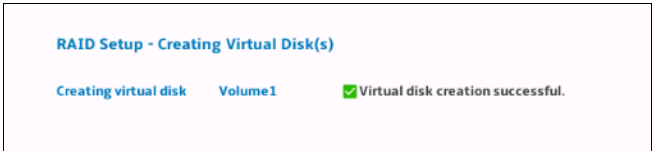

Figure 5-22 RAID array created
11. Once the array has been created, a confirmation message will be displayed as shown in Figure 5-22.